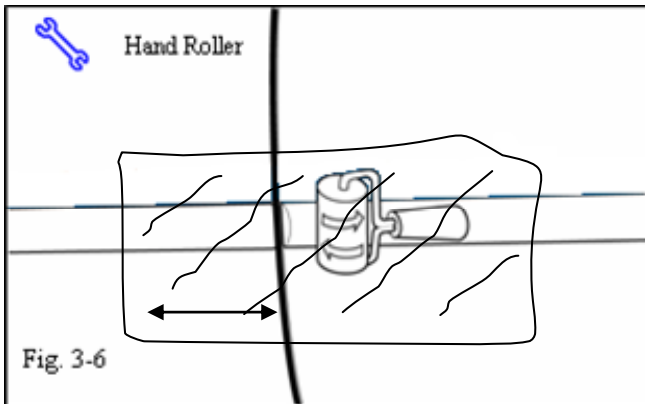

Fig. 3-6
-  (d) Using the hand roller and clean rag, roll around the perimeter of the parts with firm pressure to ensure complete adhesion of the tape to the door surface. Use the rag to protect the sheet metal and the molding. (Fig. 3-6)